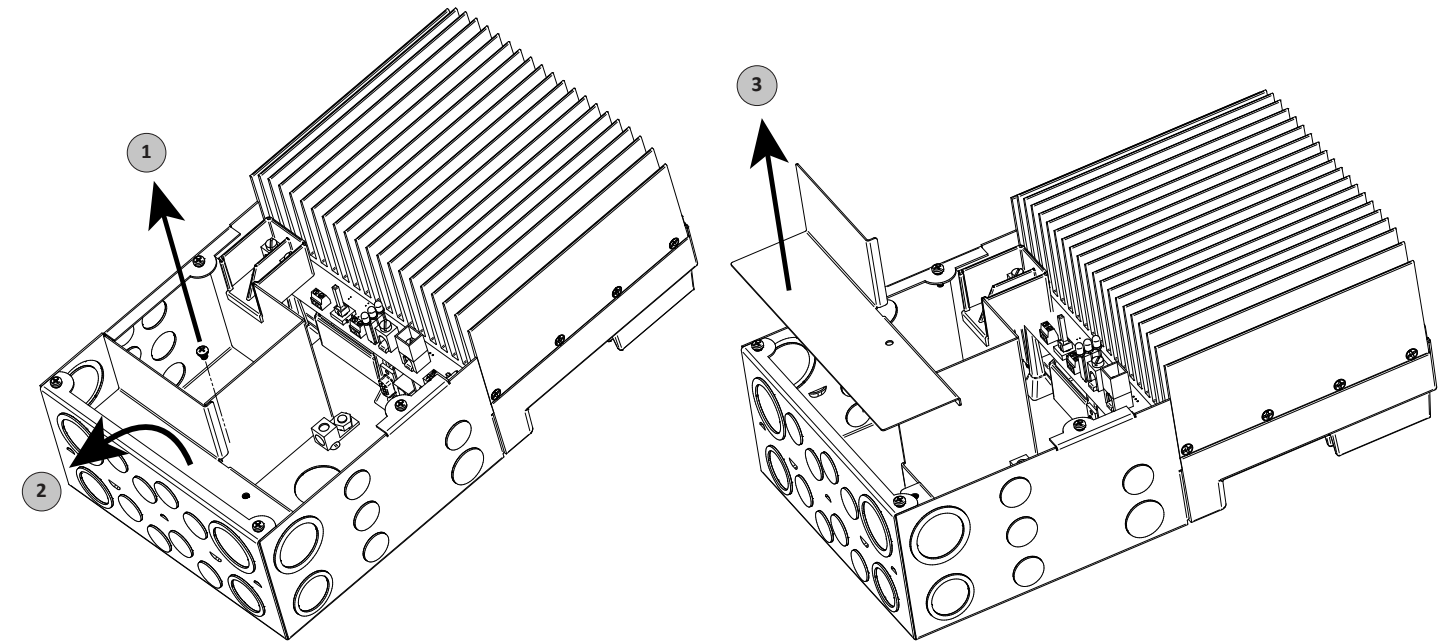

Figure 3-8. Remove the Wiring Divider
The wiring divider separates the solar high voltage wiring from the low voltage battery and communication circuits. See Figure 3-8 . The divider is secured with only one screw.
2. Lift and tilt the divider towards the bottom of the unit as shown in Figure 3-8.